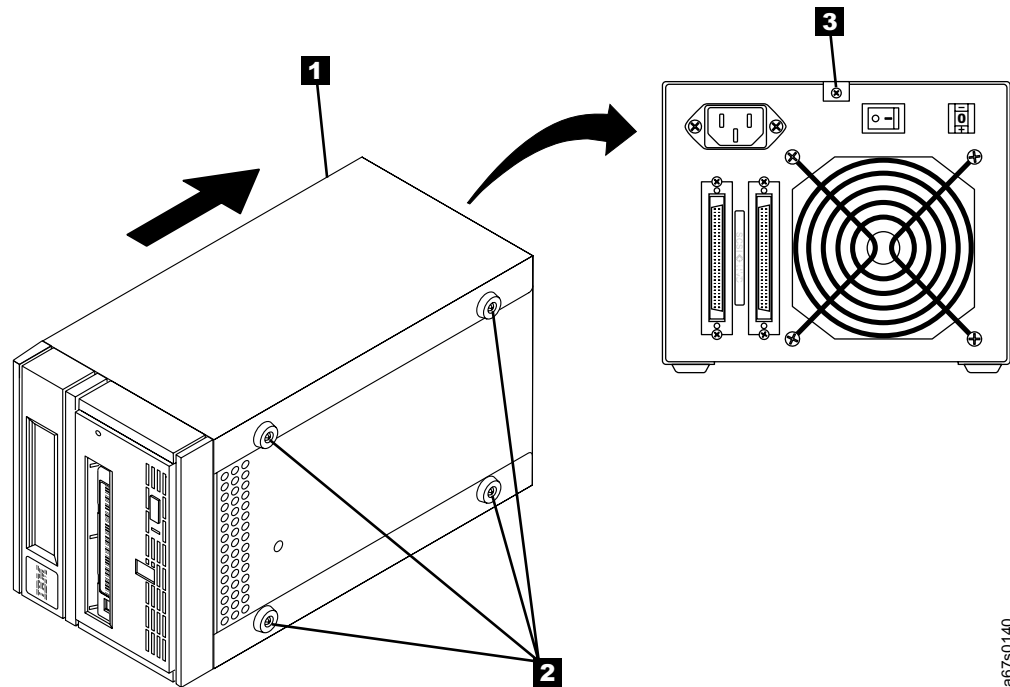

Figure 22. Removing the cover from the 3580 Tape Drive
1. Remove the cover (see **1** in Figure 22 on page 75) of the 3580 Tape Drive by performing the following steps: